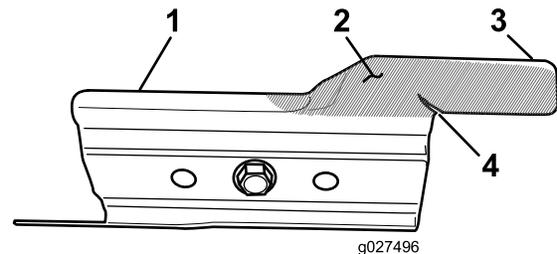

Figure 28
Carefully examine the accelerator for excessive wear (Figure 28). Because sand and abrasive material can wear away the metal (especially in the area shown as item 2 in Figure 28), check the accelerator before using the machine. If you notice that a tab on the accelerator has been worn down to a sharp edge or there is a crack, replace the accelerator; refer to Removing the Blade (page 26).